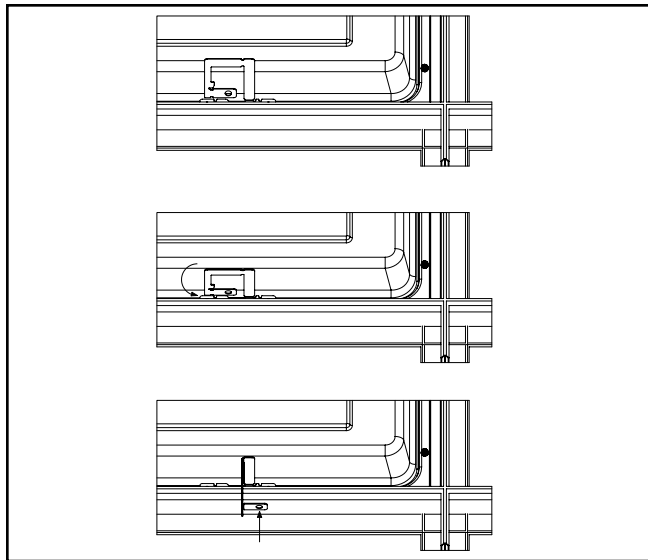

Figure 4.
6. Grid clips are provided for additional retention to ceiling system. Orient 4 tabs on back of fixture over T-GRID by bending tabs up 90 degrees perpendicular to back of fixture. Bend screw tabs 90 degrees from grid clip and then 90 degrees toward T-GRID frame. For additional securement, drive a self drilling screw (not provided) through the screw tab and into the T-GRID (Fig. 4).